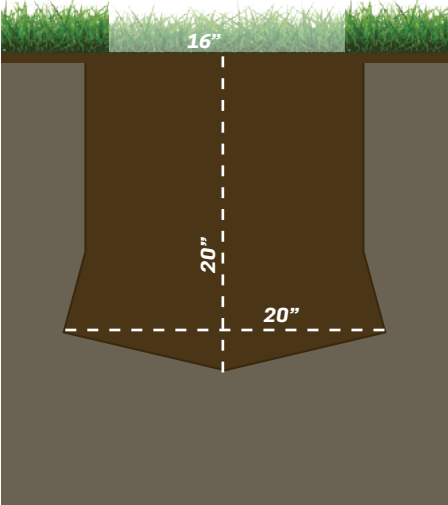

FIGURE 1
2. **(FIGURE 1)** Mark out a 16” diameter to begin digging (Center will be the center poing of your umbrella mast).
3. **(FIGURE 1)** Begin to dig a minimum depth of 20”
4. **(FIGURE 1)** Begin to “Bell out” the bottem end of the hole to roughly 20” in diameter.